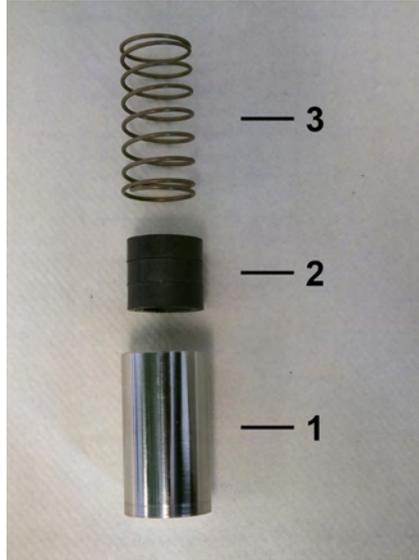

Fig. 55: Inner parts
6. Insert spring (Fig. 55/3) with magnets (Fig. 55/2) into the float (Fig. 55/1), ensuring proper magnetic pole orientation (north pole toward device outlet).